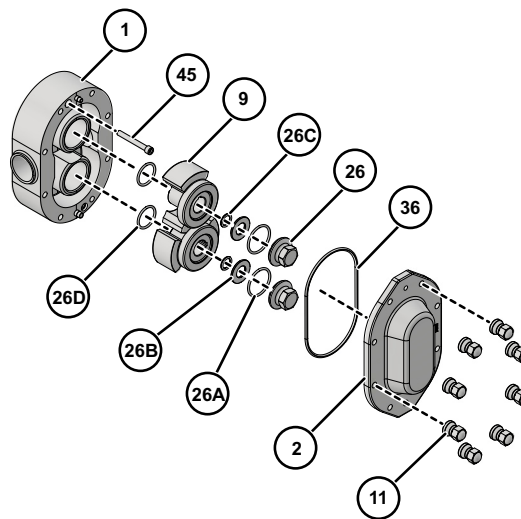

Figure 33 - Exploded View of Fluid Head
1. Remove the cover nuts (Figure 33, item 11) from the cover (item 2). Using a soft hammer, tap the cover (item 2) off the body studs and dowel pins.